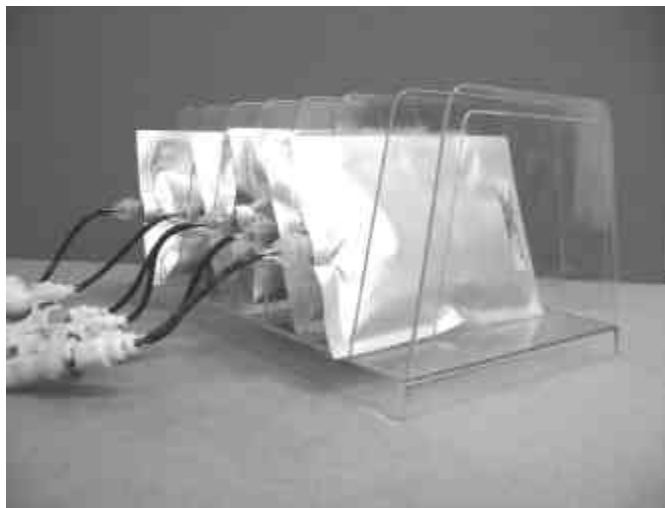

Fig. 3
3. Once all of the bags are attached to the QuickConnect system place the bags into the ink carriage. See Fig 3. **Ensure the ink carriage or ink bags are placed on the same surface as the printer.** The ink bags should never be elevated above the print head, or ink may drip from the print heads. Keeping the bags beside the printer and at the same level assures the ink delivery system will operate properly.